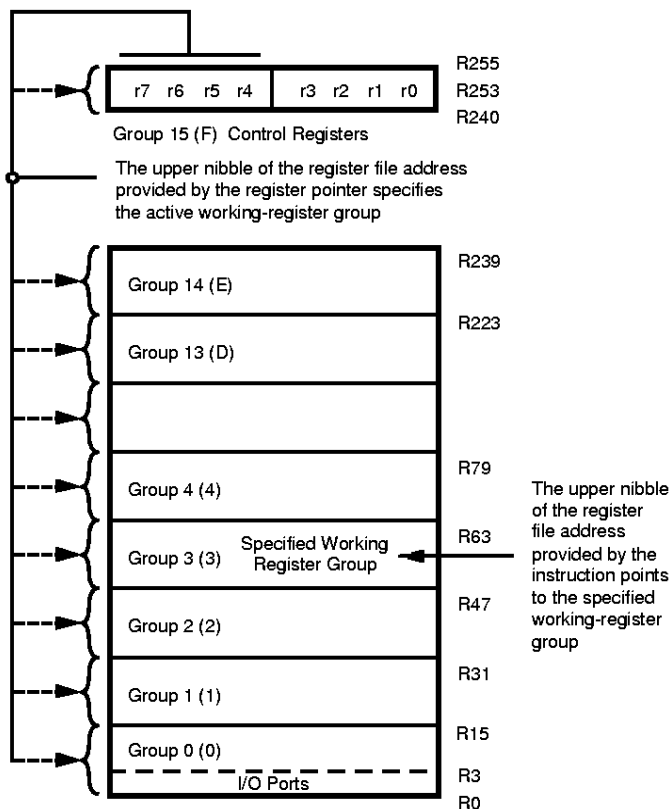

Figure 22. Register Pointer
**Data Memory ( $\overline{DM}$ ).** In ROM mode, the Z8 can address up to 32 KB of external data memory beginning at location 32768 (Figure 22). In ROMless mode, the Z8 can address the full 64 KB of external data memory beginning at location 12. External data memory can be included with, or separated from, the external program memory space.  $\overline{DM}$ , an optional I/O function that can be programmed to appear on Port 34, is used to distinguish between data and program memory space (Table 5). The state of the  $\overline{DM}$  signal is controlled by the type of instruction being executed. An LDC opcode references PROGRAM ( $\overline{DM}$  inactive) memory, and an LDE instruction references data ( $\overline{DM}$  active Low) memory.